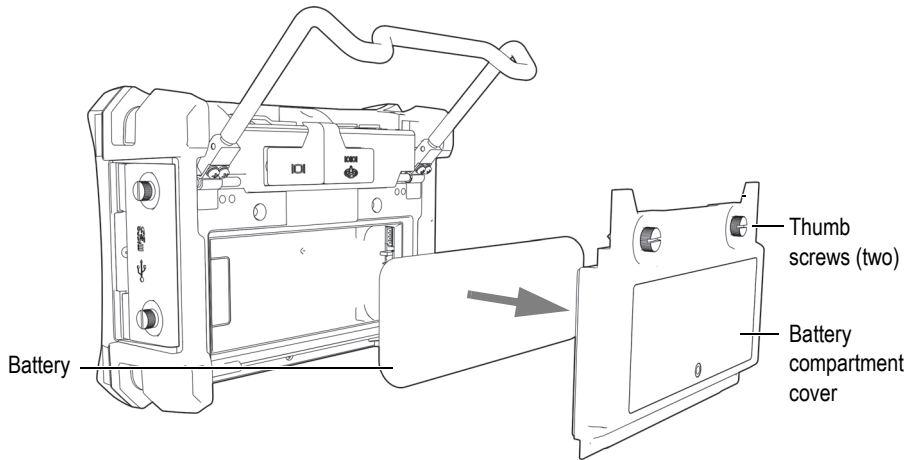

Figure 1-11 Removing the battery compartment cover and the lithium-ion battery
3. Remove the lithium-ion battery, if installed (see Figure 1-11 on page 29).